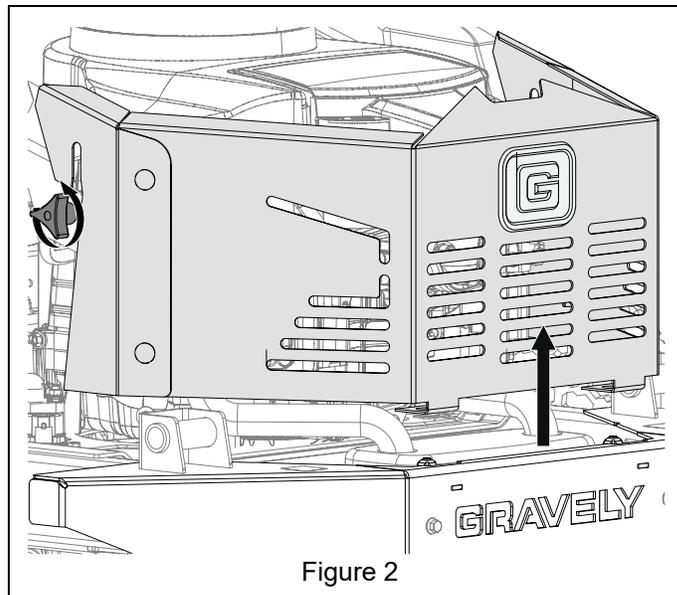

Figure 2
- Reinstall engine guard. See Figure 2.